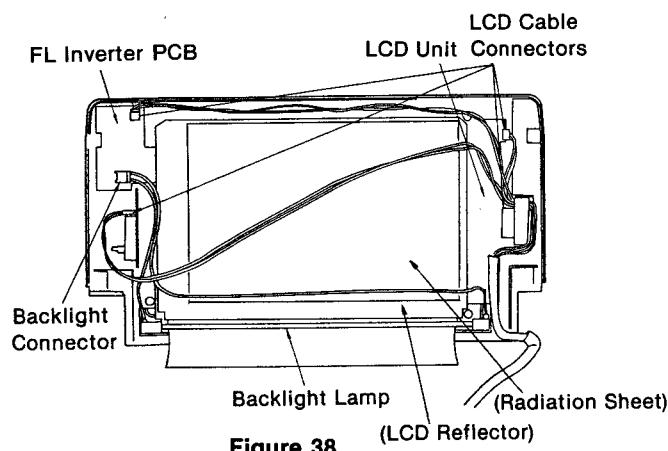

Figure 38
(6) Put the backlight lamp into the lamp holder as shown in Figure 38.
(7) Connect the backlight lamp connector to the FL inverter PCB as shown in Figure 38.
(8) Connect the LCD cable connector to the LCD unit as shown in Figure 38.